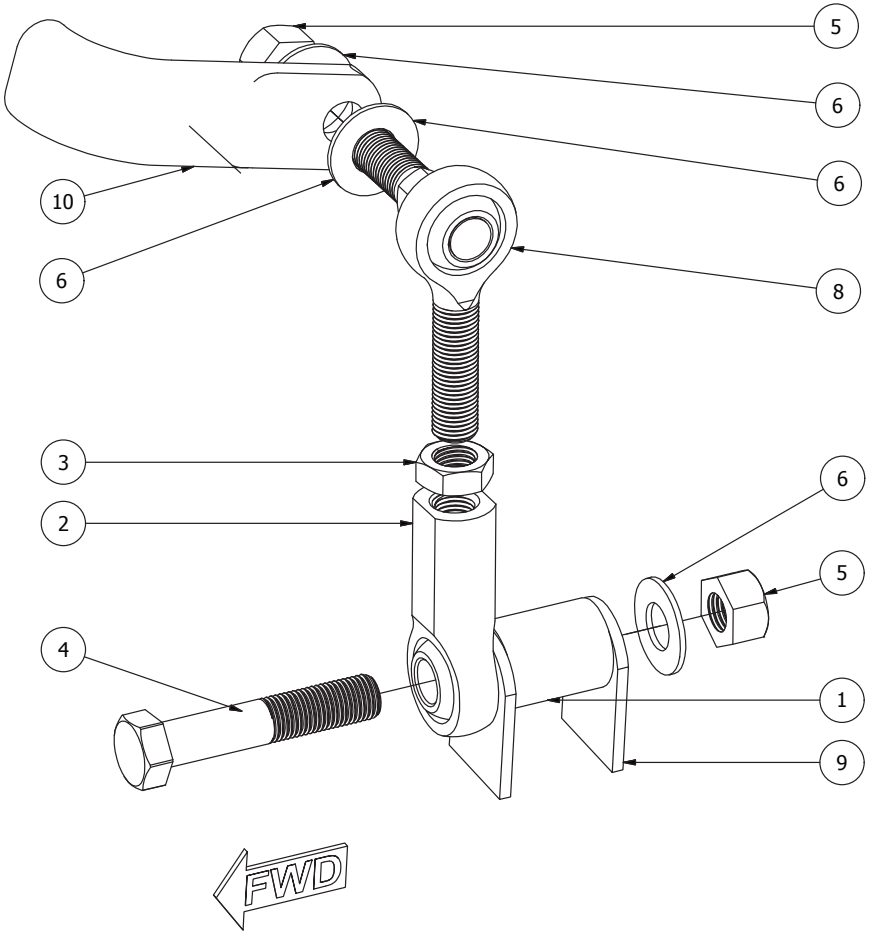

Figure 1 - Front left sway bar link assembly
3. Assemble and install the sway bar end link as shown in Figure 1. Connect the link to the lower control arm sway bar link bracket first, then adjust the link to the desired length before connecting it to the sway bar.